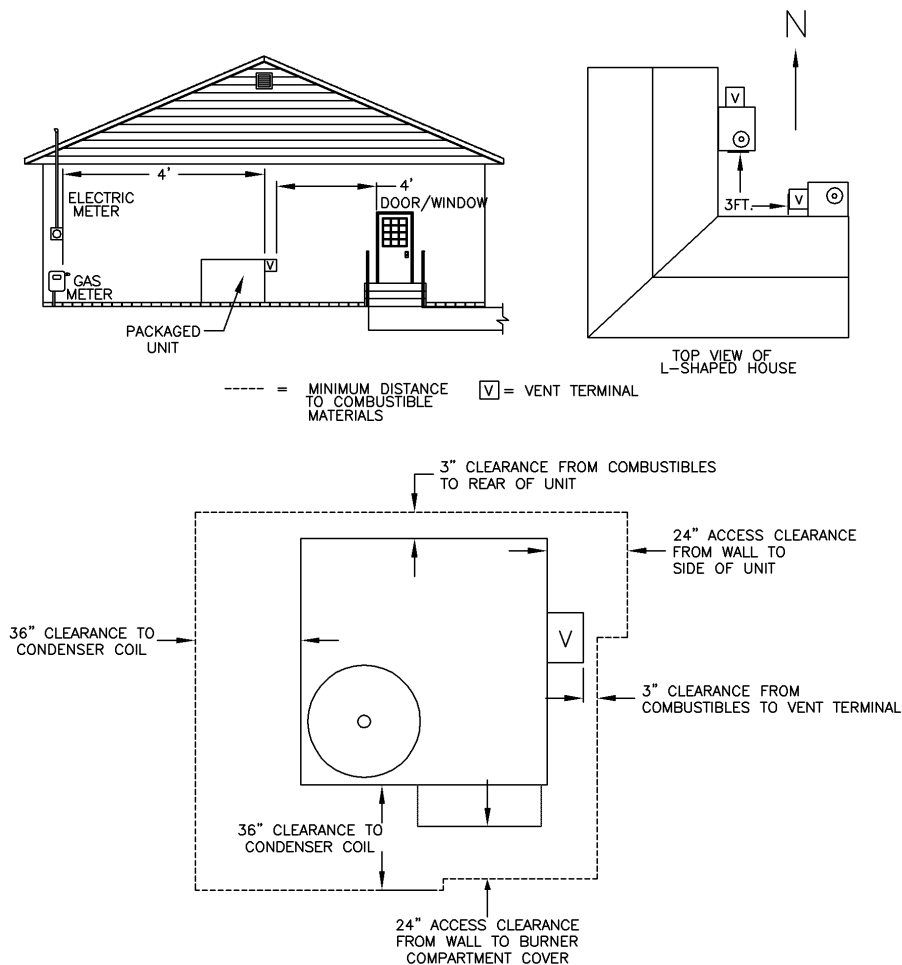

Figure 1: Selection of Appliance Installation Location
4. The cooling system fan discharges air, upward through the top grill. For this reason, this appliance should not be located under an overhang or any other obstruction to airflow that would redirect the heated discharge air back into the condenser. The appliance should be located as illustrated in Figure 1, below.